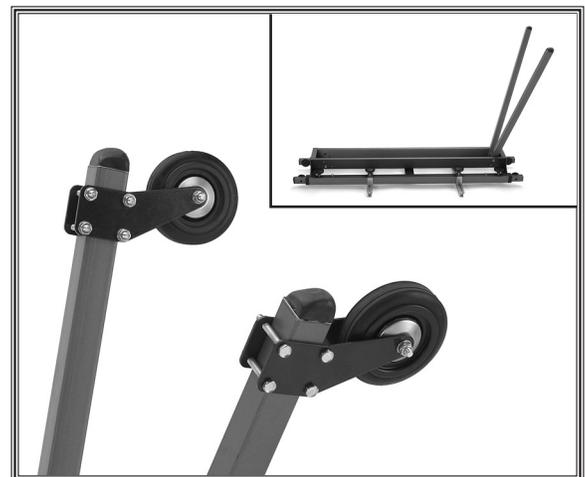

Figure 3. Wheel assembly.
1. Lay the work stand upside down and unfold the top set of legs (inset in Figure 3). Make sure the locking pins snap into place.
2. Place a wheel bracket on both sides of the wheel and thread (1) M8-1.25 x 45 hex bolt through the assembly (see Figure 3), then secure it with (1) 8mm flat washer and (1) M8-1.25 lock nut.
3. Place each wheel bracket assembly over the stand leg, thread (4) M6-1 x 45 hex bolts through each wheel bracket (see Figure 3), and secure them with flat washers and hex nuts.